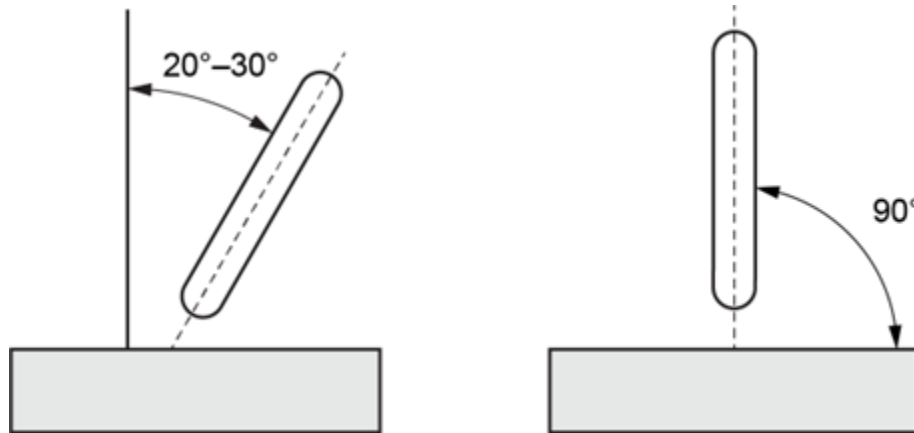

Figure 1 Electrode angle (BC Industry Training Authority, 2019). CC BY-NC-SA 4.0 (<https://creativecommons.org/licenses/by-nc-sa/4.0/>)
- **Figure 1** Shielded metal arc welding (https://commons.wikimedia.org/wiki/File:Shielded_Metal_Arc_Welding_.jpg) Lincoln Excalibur 7018 1/8" by Prowelder87 on Wikimedia Commons is used under a CC BY-SA 4.0 (<https://creativecommons.org/licenses/by-sa/4.0/>) license.
Generally, the electrode should be held perpendicular to the base metal and then inclined 20° to 30° in the direction of travel (Figure 1). For some welds, however, the **electrode angle** is required to remain upright, perpendicular (90°) to the workpiece.